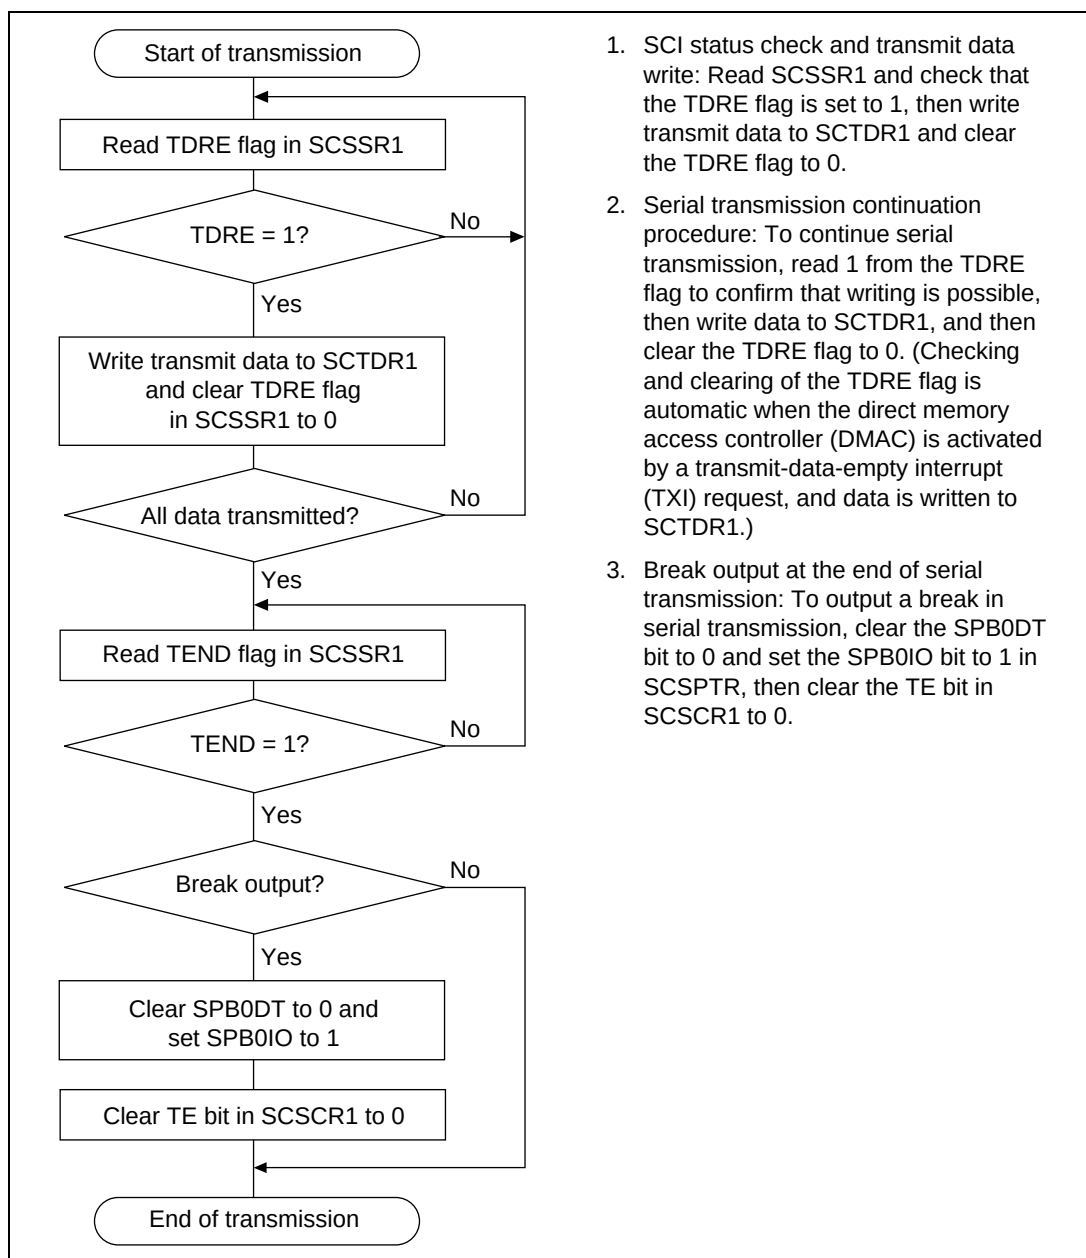

**Figure 15.8 Sample Serial Transmission Flowchart**
**Serial Data Transmission (Asynchronous Mode):** Figure 15.8 shows a sample flowchart for serial transmission.